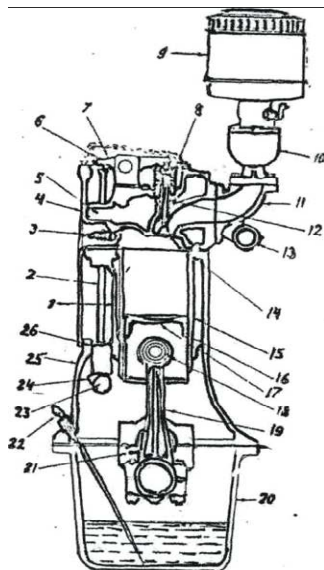

Fig. 1. Basic Engine Nomenclature:
The basic petrol engine parts* are shown in Fig. 1. The most important parts, particularly for an automotive type engine, are: a cast-iron cylinder block (1) to hold the cylinders in a fixed position: a cast-iron or aluminum cylinder head (4) which is the covering for the combustion chamber: a cast-iron crankcase (25) which is usually formed with the cylinder block which, as its name implies, is a structure for holding the crankshaft; a pressed-steel oil pan (20) for sealing the bearings from dirt and holding the oil for lubrication; a forged-steel crankshaft (21) to transform the reciprocating motion of the piston to rotary motion of the drive shaft; a forged-steel connecting rod (19) to join the piston and the crankshaft; a cast-iron or aluminum piston (17) to receive the power impulse and to seal the cylinder so as to prevent the gases from escaping; a spark plug (3) to ignite the mixture of gasoline and air; an inlet valve (14) to admit the mixture and an exhaust valve to discharge the exhaust of burnt gases after the power stroke; valve spring (8) to control the motion of the valves; tappets (26) to take the thrust and eccentric loading imposed by the cams (24) of the camshaft (23). The camshaft is driven at one-half of the crankshaft speed by timing gears (not shown). The intake manifold (11) is a passageway leading to the inlet valves. At the beginning of this manifold there is a carburetor (10), which feeds the liquid fuel into the manifold air stream where it is partially vaporized. The exhaust manifold (13) similarly is the pipe or passageway leading from the exhaust valves to the atmosphere. Other parts are named in the illustration.